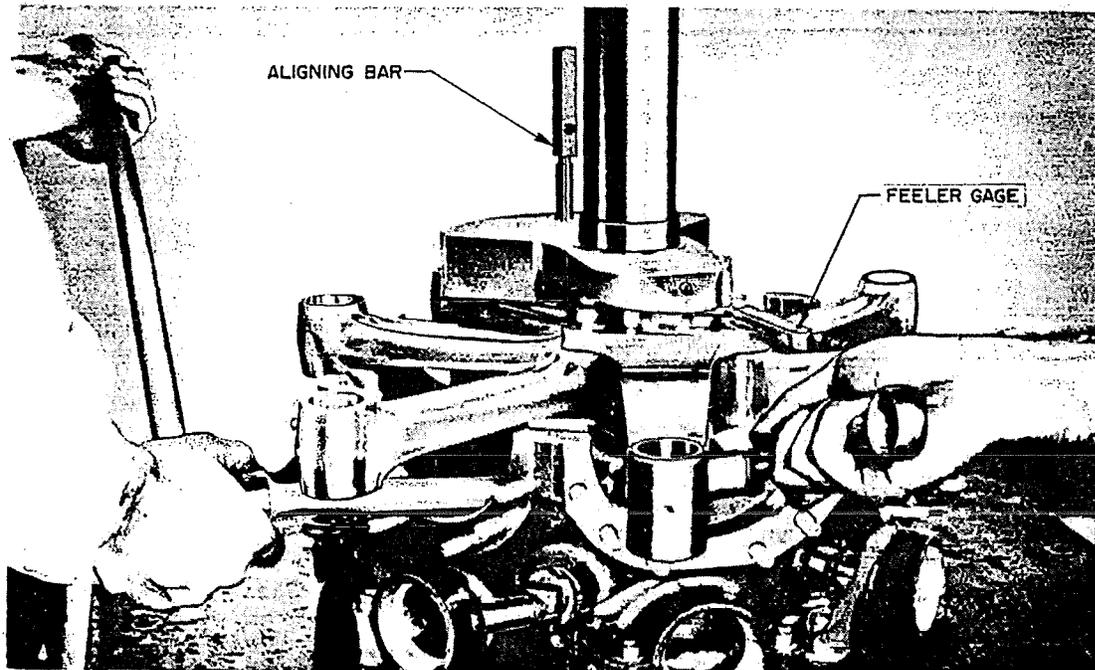

Figure 35 - Tightening Crankshaft Clamp Bolt.
i. Tighten the clamp bolt, using Wrench (Tool No. T-344) to turn the nut while the bolt is held by a box-socket end wrench. Refer to Figure 35. The Part No. 30100, or No. 30099 bolt must be tightened until it is stretched to .012" minimum (or next cotter pin slot) as determined by again measuring with a micrometer. (Note that the Part No. 342-C bolts in L-4 series engines must be stretched to only .008" or the next cotter slot). CARE SHOULD BE EXERCISED TO MEASURE THIS STRETCH ACCURATELY.